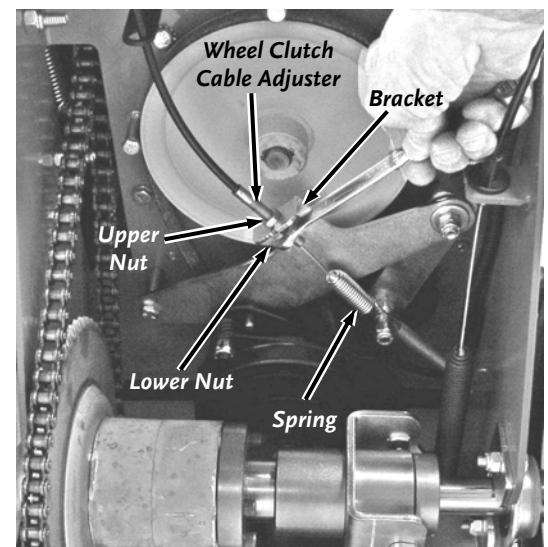

Figure 24
1. Find the Wheel Clutch Adjuster on the Bracket on the underside of the machine (**Figure 24**).